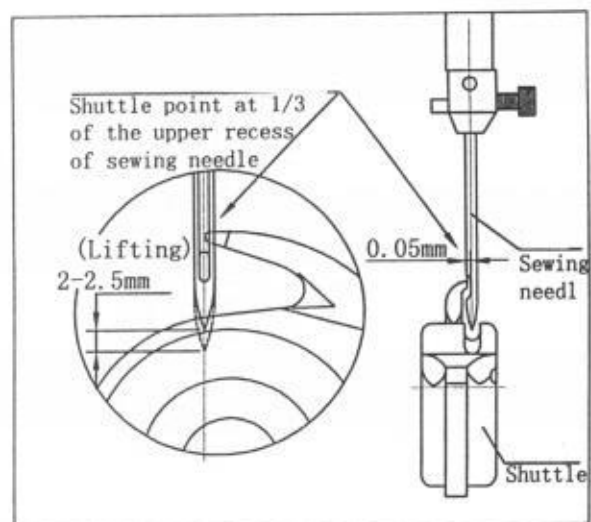

Fig. 14
(B) Turn the hand wheel to make the needle at the lowest position. And then lift the needle by 2 – 2,5 mm. Here the shuttle point is just at 1/3 of the upper recess of sewing needle. The distance between the shuttle point and the needle slot surface is 0,05 mm (Fig. 14).